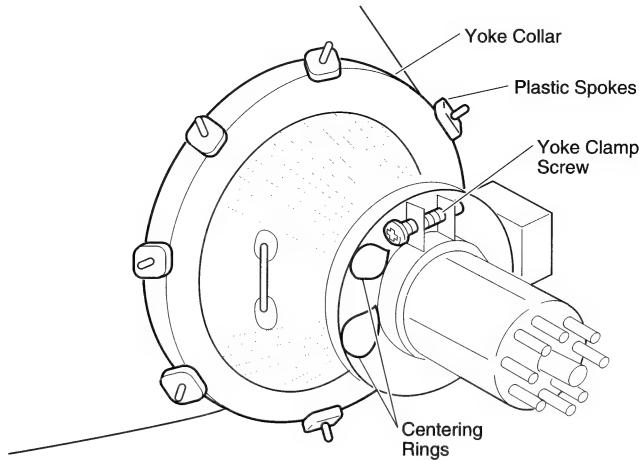

Figure 3 CRT Adjustment Controls
2. Loosen the yoke clamp screw two or three turns (see Figure 3).
4. Place one hand behind your back, and with your other hand grasp only the plastic spokes of the yoke collar (see Figure 3). Rotate the yoke collar until the top and bottom edges of the picture appear parallel with the top and bottom edges of the bezel. (**Do not move the magnets, which are preset by the manufacturer and should not be adjusted.**)
6. Hold the yoke collar in position and tighten the yoke clamp screw so that the yoke collar will not slip (see Figure 3). Don't overtighten.